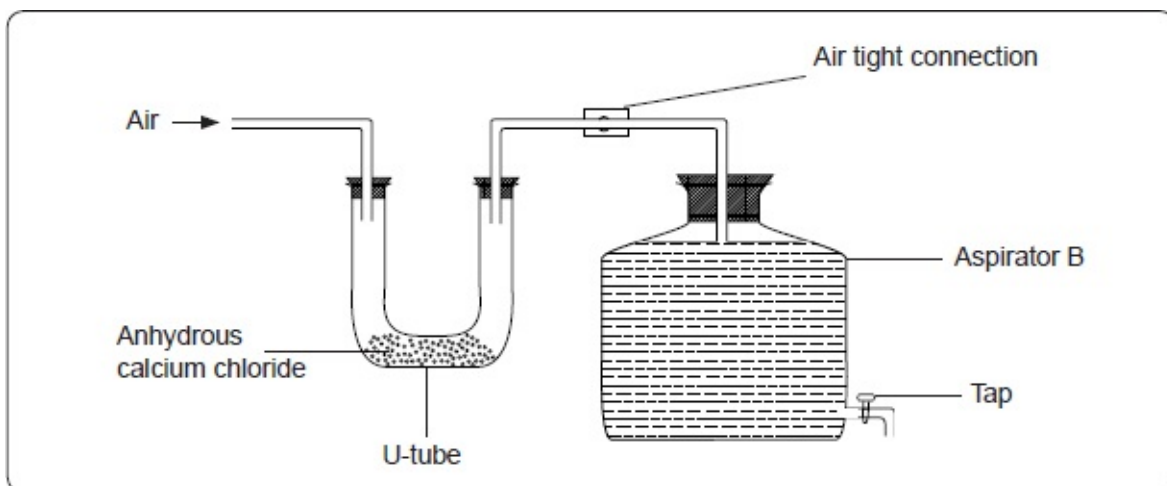

Fig 4.6: Demonstration of the presence of water vapour in air.
- (b) Pack the bottom of a U-tube with anhydrous calcium chloride. Arrange as shown in figure 4.6. Pass air through the U-tube by means of an aspirator or a suction pump. Record your observations.